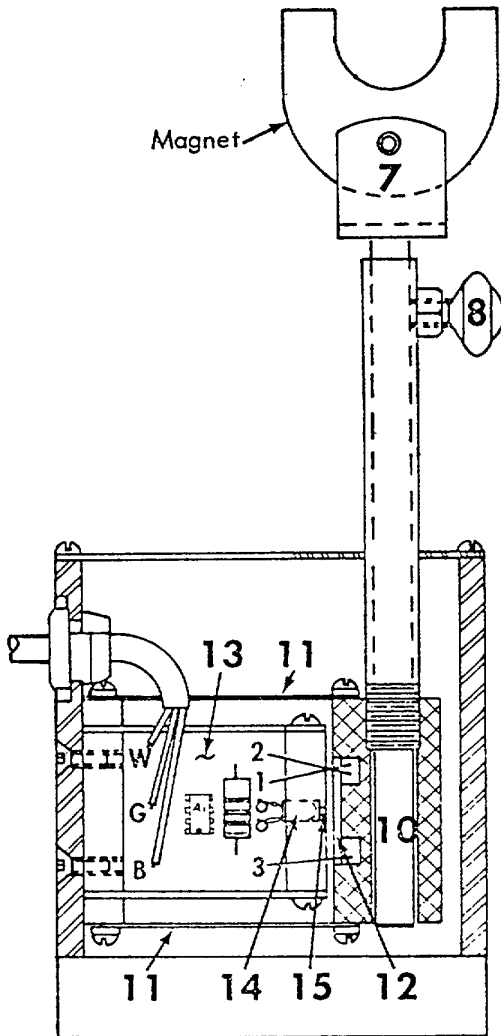

Figure 4. Item 6, Vibration Pickup Ass'y
A wheel out of balance will impart vertical vibrations to the magnet-rod assembly (7) on the vibration pick-up. The vibrations are transferred to the movable block-potentiometer assembly (10) suspended by two leaf springs (11) shown in figure 4. The light sensor potentiometer (12) is epoxied into a vertical slot of the block and has three flexible leads connected to the pc board (13). When the block vibrates up and down, light from a light emitting diode (14), transmitted through a slit (15), strikes different vertical positions of the light sensor pot. This action causes the output voltage of the light sensor to vary in a regular cyclic manner. The output voltage is generally sinusoidal, and is proportional to the amount of unbalance producing the vibration.
4. Place vibration sensor on level surface, under lower control member. Loosen locking thumb screw and position magnet in firm contact with the lower control member. Magnet should be as close to the wheel being balanced as possible. Securely lock the thumb screw on the pickup. See figure 4.